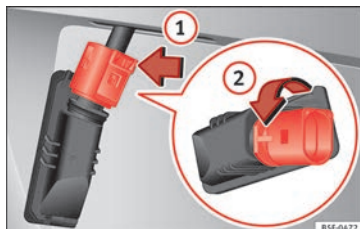

Fig. 118 Number plate light: Remove the bulb holder.
3. In the connector lock, turn » Fig. 118 towards the arrow ① and pull the connector.
4. Rotate the bulb holder in the direction of arrow ② and extract it with the bulb.
6. Insert the bulb holder in the number plate light and turn in the opposite direction of arrow ② until it stops.